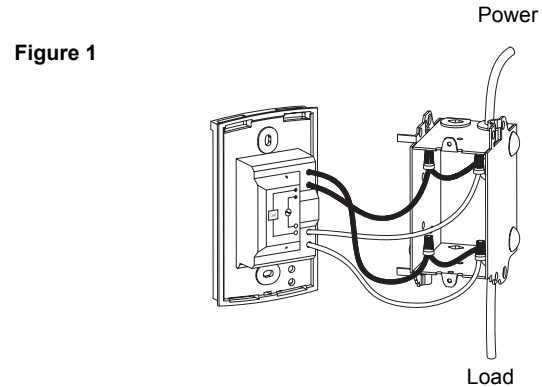

Figure 1
- 1 Connect the power base wires to the power supply and load using solderless connectors for copper wires (figure 1).